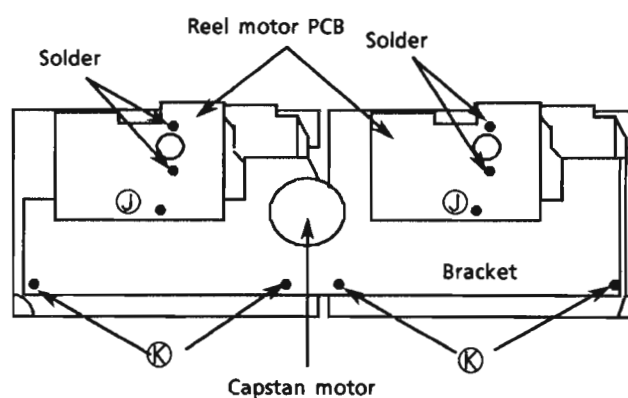

Fig. 13
3. Remove the 4 screws ⑫ fixing the bracket (Fig. 13).
3. Remove the screws ㊀ and the bracket (Fig. 13).